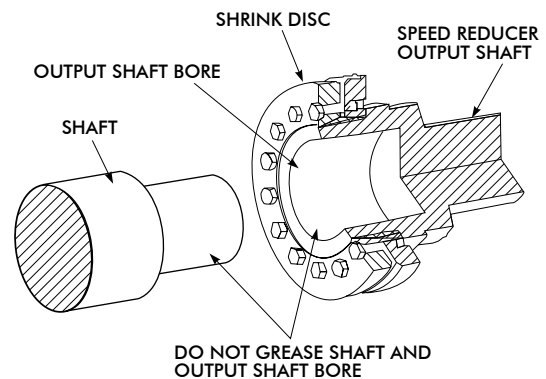

FIGURE 2.2b Placement of Shrink Disc onto Output Shaft
c. Slide Shrink Disc over the output shaft. The outer surface of the out-put shaft can be greased. **NOTE:** The output shaft bore and the shaft that the speed reducer will be mounted to SHOULD NOT be greased. Reference Figure 2.2b. To facilitate installation of the shrink disk on output shaft pry open the inner ring split with a flat screwdriver while installing.